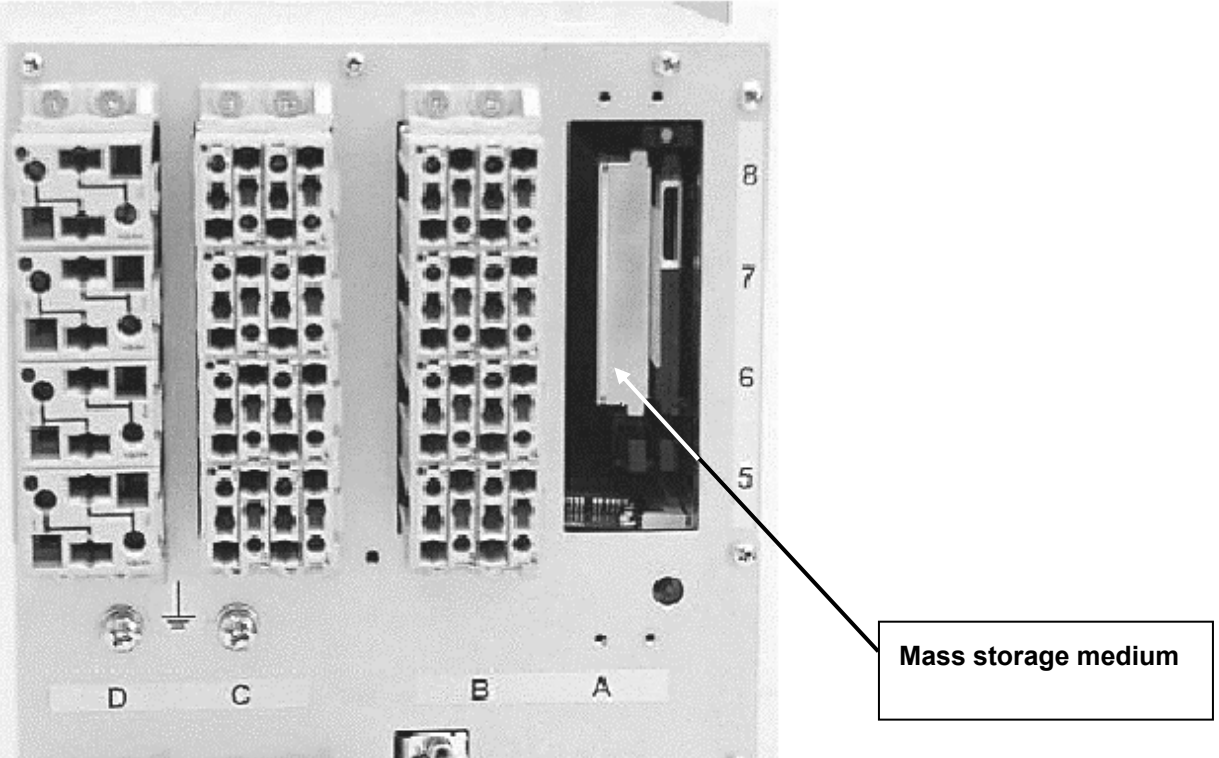

Figure 2: Insertion of the mass storage medium (2)
3. Insert the mass storage medium in the left slot. The labeled side of the storage medium is oriented towards the left. Figure 2: shows the inserted mass storage medium.